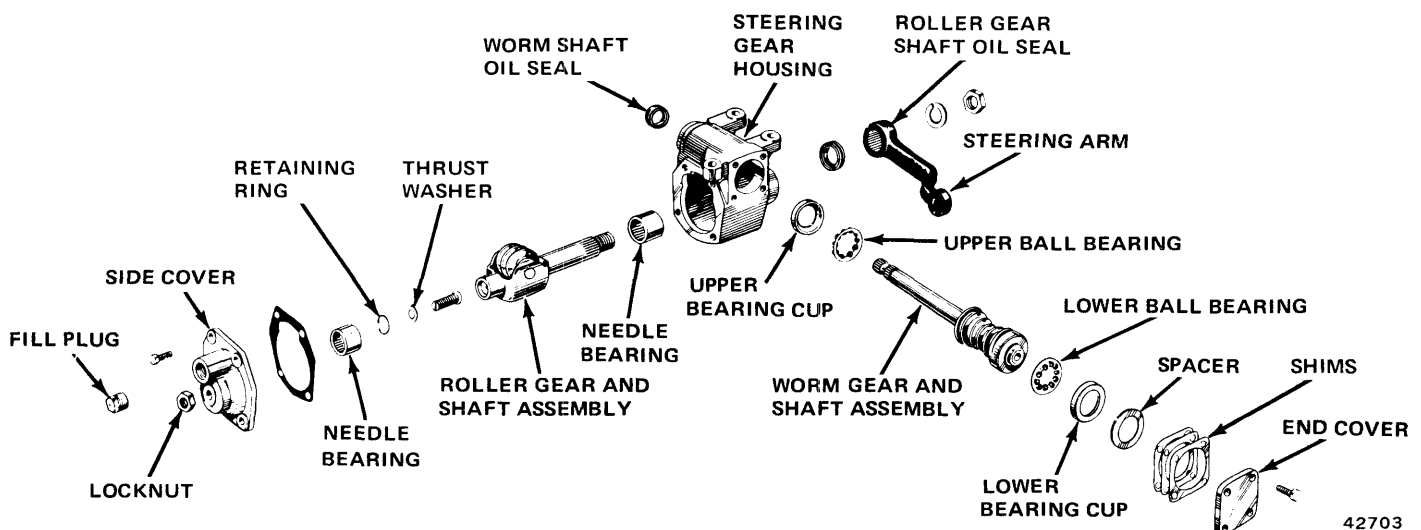

Fig. 11-55 Steering Gear—Right-Hand Drive Vehicles
- (1) Clean exterior of steering gear with solvent.
- (2) Remove fill plug from housing (fig. 11-55) and drain lubricant from gear.
- (3) Paint assembly alignment reference marks on steering arm and roller gear and shaft assembly.
- (4) Remove nut and lockwasher from roller gear shaft (fig. 11-55).
- (5) Remove steering arm from roller gear shaft using pitman arm puller.
- (6) Remove nicks or burrs from exposed portions of roller gear and shaft assembly and from worm gear and shaft assembly using fine-tooth file or emery cloth.
- (7) Remove side cover attaching bolts.
- (8) Remove side cover, cover gasket, and roller gear and shaft from housing as an assembly.
- (9) Remove locknut from roller shaft adjustment screw.
- (10) Turn roller shaft adjustment screw clockwise until screw is completely unthreaded from side cover and separate roller gear and shaft assembly from cover.
- (11) Remove end cover attaching bolts and remove end cover and shims from housing.
- (12) Remove worm gear and shaft assembly.
(13) Remove upper and lower bearing cups and bearings from worm gear and shaft.
This adjustment controls the preload applied to the upper and lower worm bearings. Adjustment is accomplished by adding or subtracting shims from between the steering gear housing and end cover (fig. 11-55).